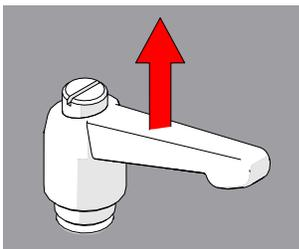

Fig. 33 - Pull ratchet handle
1. Pull the ratchet lever away from the base to which it is connected (Fig. 33).